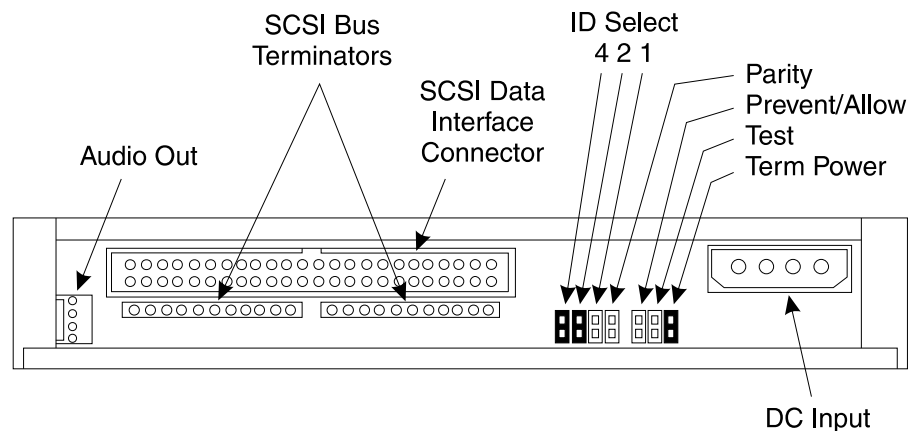

Figure D-32: Internal CD-ROM — Factory Default Jumper Settings
4. Verify that the jumpers (located on the rear of the drive) are set to the factory defaults. This includes jumpers to set the SCSI ID to 6 (jumpers 2 and 4 are set) and all other jumpers except the Term Power should be removed (see Figure D-32). If you are installing a CD-ROM in a *Sun SPARCserver 5*, then go to Step 5. If you are installing a CD-ROM in a *Sun SPARCserver 20*, then go to Step 6.